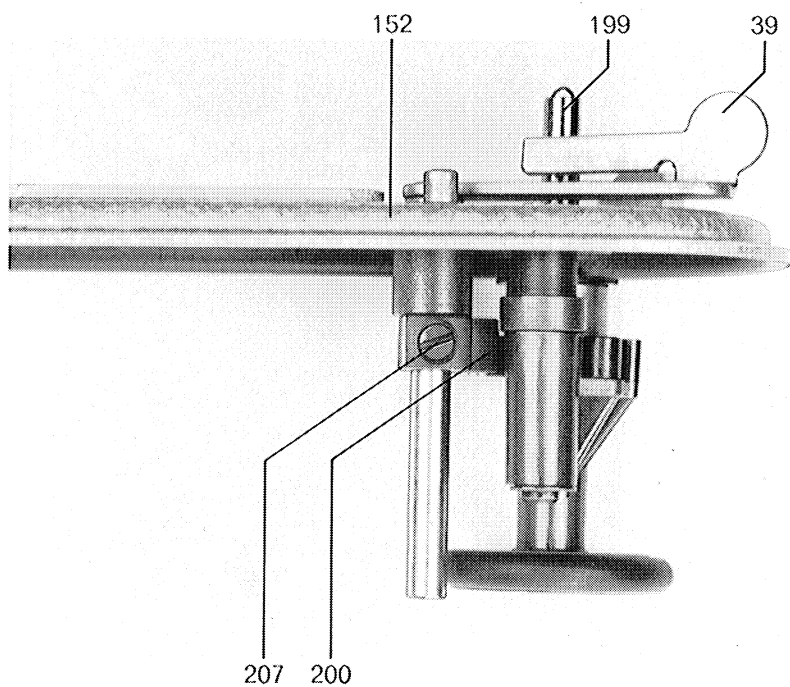

Fig. 33
28. Adjusting the bobbin winder (figs. 33 and 34)